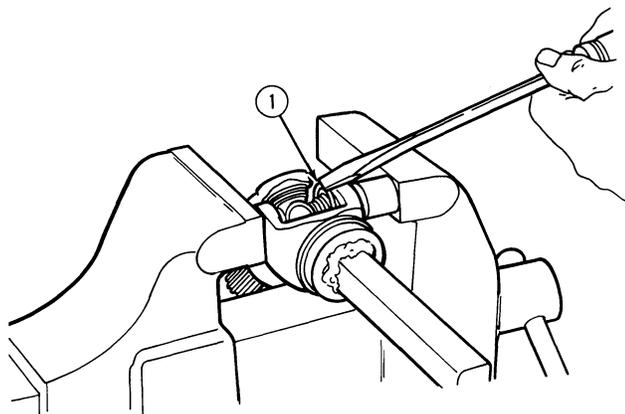

Figure 12
- Loosen the vise and repeat step 4 for the other bearing cup. Install the snap ring (1), Figure 12, in the yoke.